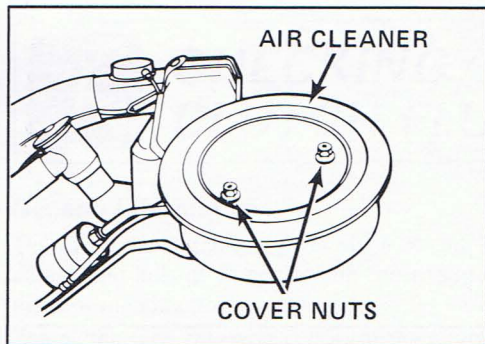

Figure 1 - Top of engine
1. Remove the two nuts on top of the air cleaner. See Figure 1.